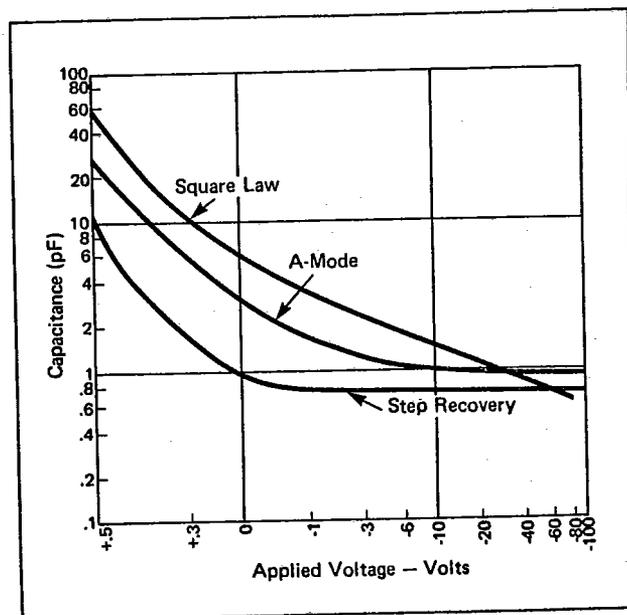
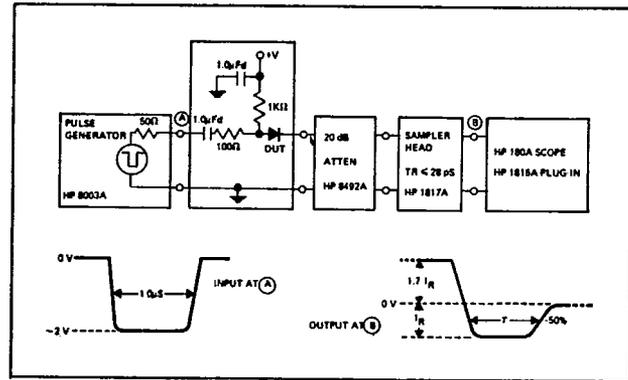
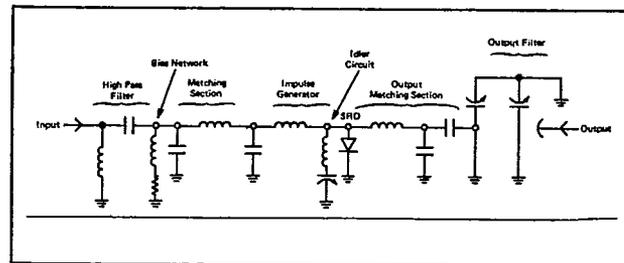

Figure 1. Capacitance vs Applied Voltage for Square Law and A-Mode Multipliers and Step Recovery Diodes
Figure 4. Minority Carrier Lifetime, T , Test Set-Up
Figure 6. Typical SRD Multiplier
and T_T are shown in Figures 4 and 5. For optimum performance an ideal SRD will be a punch-through device at zero volts (any increase in reverse bias above zero volts will not decrease capacitance) but will have a highly non-linear capacitance increase as the diode is forward biased. In actual practice a step recovery diode will not be zero punch-through but will have $C_{J0}/C_{J6} \leq 1.4$. This can be clearly seen in Figure 1. SRDs are highly efficient, and idlers are not needed although, if used, may further increase efficiency. A typical SRD circuit is shown in Figure 6.
3. Measured at I_F = 10 mA, I_R = 6 mA (see Figure 4)
3. Measured at $I_F = 10$ mA, $I_R = 6$ mA (see Figure 4)